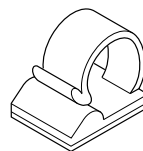

Figure 29 - Adhesive-backed Mounting Clip
2. The adhesive-backed mounting clip (see Figure 29) is attached to the thermostat sensing bulb. Remove the adhesive-backed mounting clip.